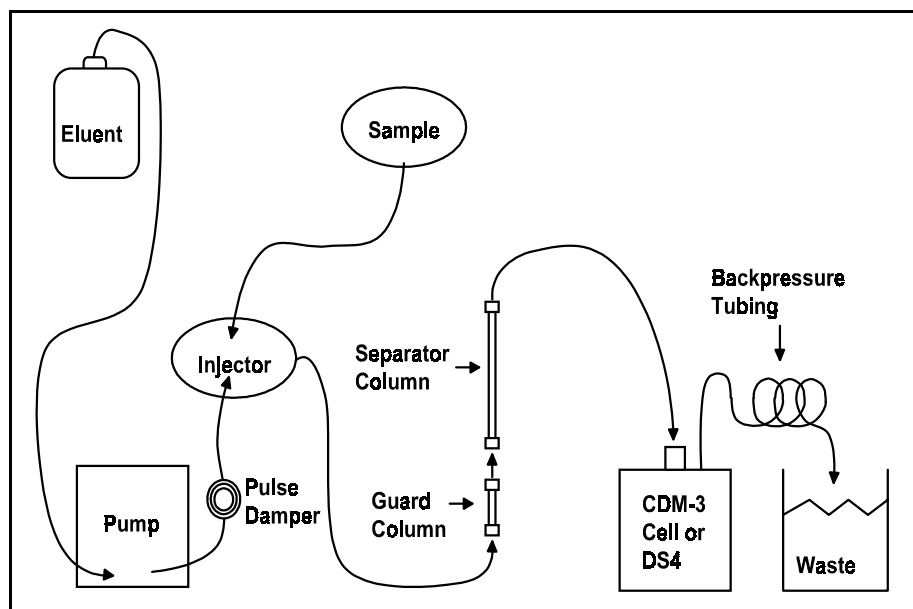

Figure B-6. Nonsuppressed Mode
- Nonsuppressed mode, shown in Figure B-6. Conductivity measurements made when no suppressor is in-line may show noticeable baseline drift.